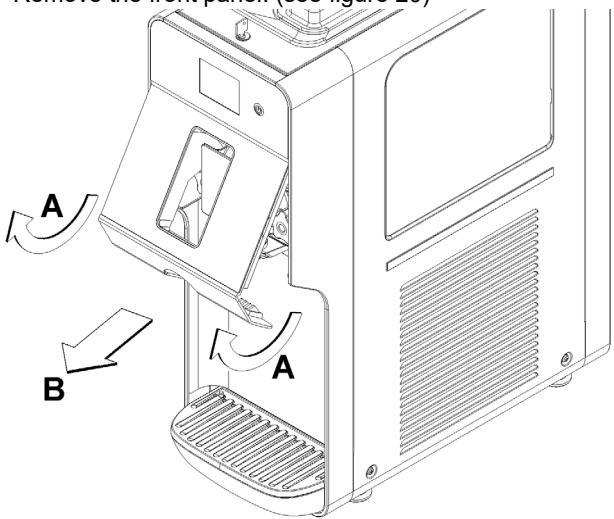

figure 20
5 Remove the front panel. (see figure 20)
- Reassemble the tap assembly in the reverse order to that illustrated in Figure 20 and reposition it in its seat.